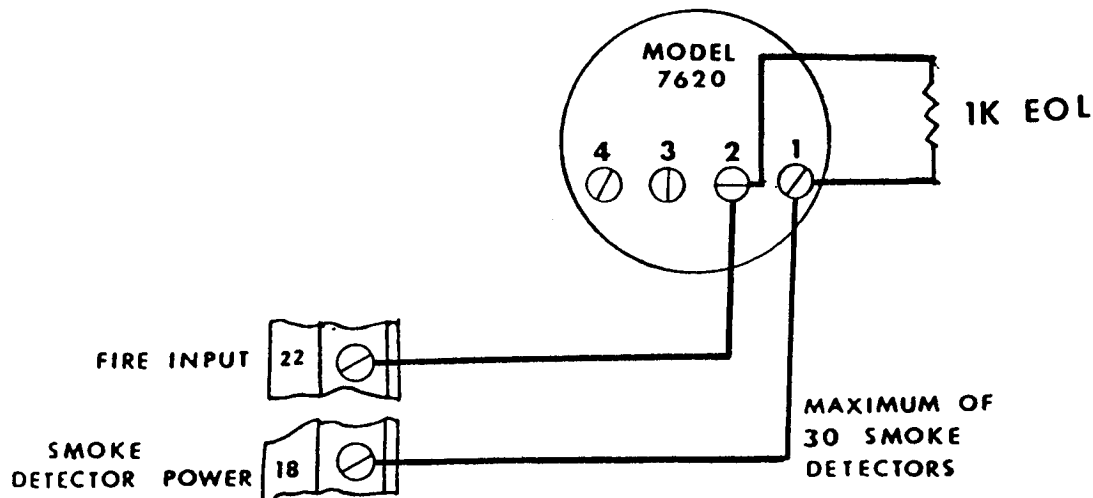

FIGURE 4
The Model 7620 Smoke Detector can be used when wiring the fire zone of the Model 2730. Figure 4 illustrates how it should be wired. The Model 7620 Smoke Detector is rated at 50 uA. in the normal supervisory condition and 15 mA. in the alarm condition. A maximum of thirty (30) 7620's may be used with the 2730 Control Panel.